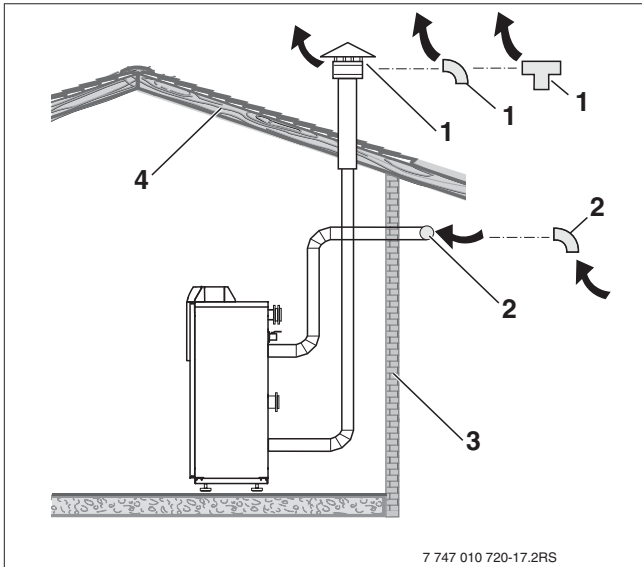

Fig. 13 Wall-exit air supply pipe, roof-exit exhaust
5.5.2 Vertical Vent and Horizontal Combustion Air Inlet (Natural Gas) (See Figure 13)